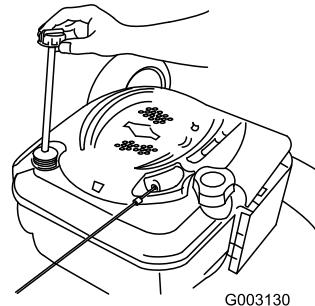

Figure 41
- Retirez la jauge (Figure 41).